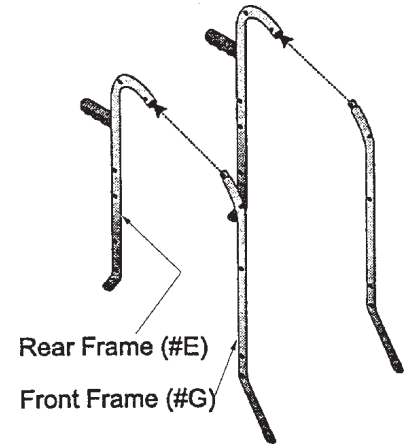

Figure 1. Frame Assembly
2. Insert one Front Frame (G) into one Rear Frame (E) as shown in *Figure 1*. Insert the swagged end of the Front Frame into the curved portion of the Rear Frame near the handle. Be sure the lock buttons on the front frames fit into the holes in the rear frames.
3. Assemble the Large Bottom Tray (C) between the two frame assemblies. Attach using two screws, four washers and two nuts per side.